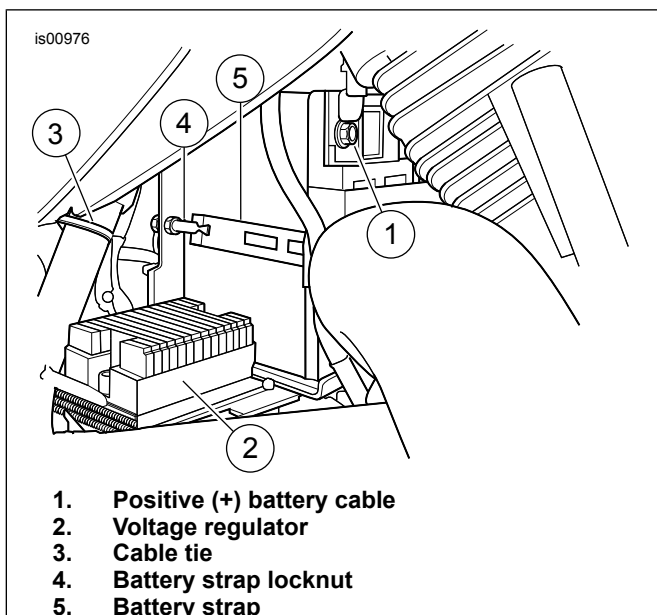

Figure 1. Stock Battery Removal
3. See Figure 1. Remove voltage regulator (2).
- c. Cut cable tie (3) that secures voltage regulator wire harness to frame tube.